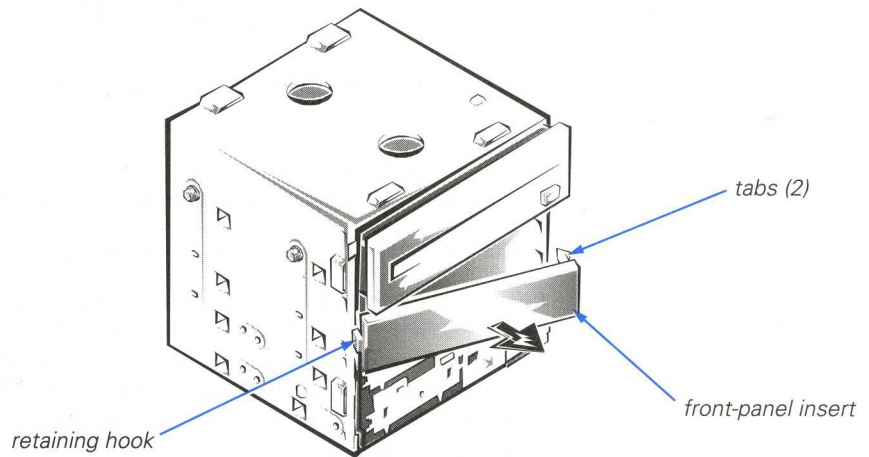

**Figure 3-6. Removing a 5.25-Inch Insert**
3. If you are installing a drive in the lower 5.25-inch bay, remove the front-panel insert shown in Figure 3-6 by pressing in the two tabs on the right side and rotating the insert toward you until the retaining hook disengages from the drive cage.